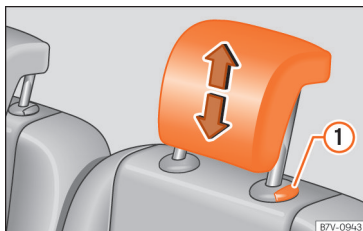

Fig. 134 Fitting the headrests in the second or third row of seats
- Remove the headrest completely while pressing button » » » **Fig. 134** **①**.